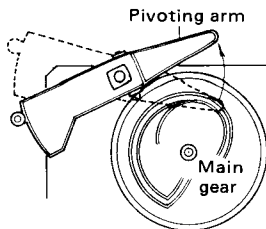

Fig. 5-1.
2. Turn the main gear, and bring the end of the pivoting arm assembly close to the gear periphery. Lift the end gently and disengage it from the gear groove (Fig. 5-1).